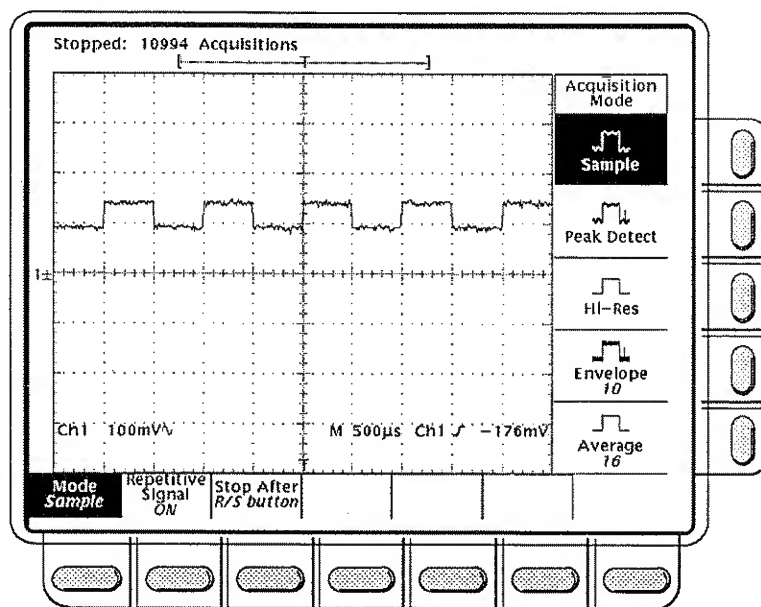

Figure 3-1: Acquire Menu
- ☐ **Step 1:** Press the **ACQUIRE MENU** button (SHIFT and then RUN/STOP) to bring up the Acquire menu (Figure 3-1).